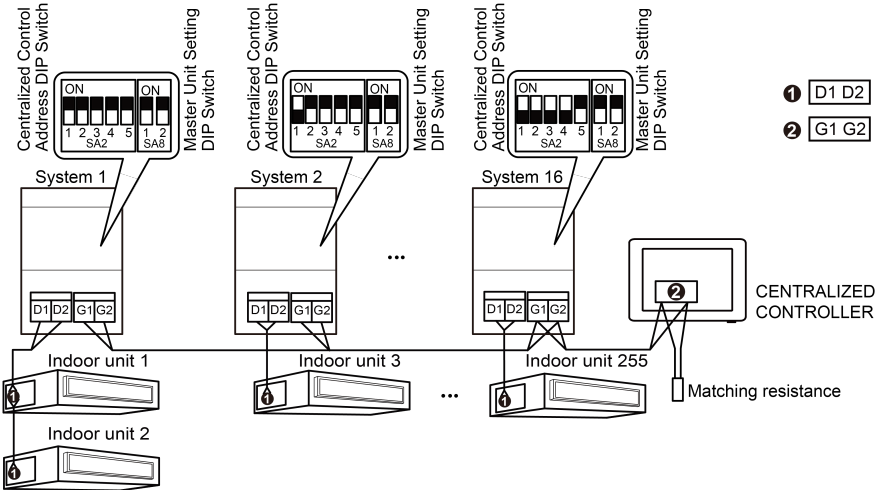
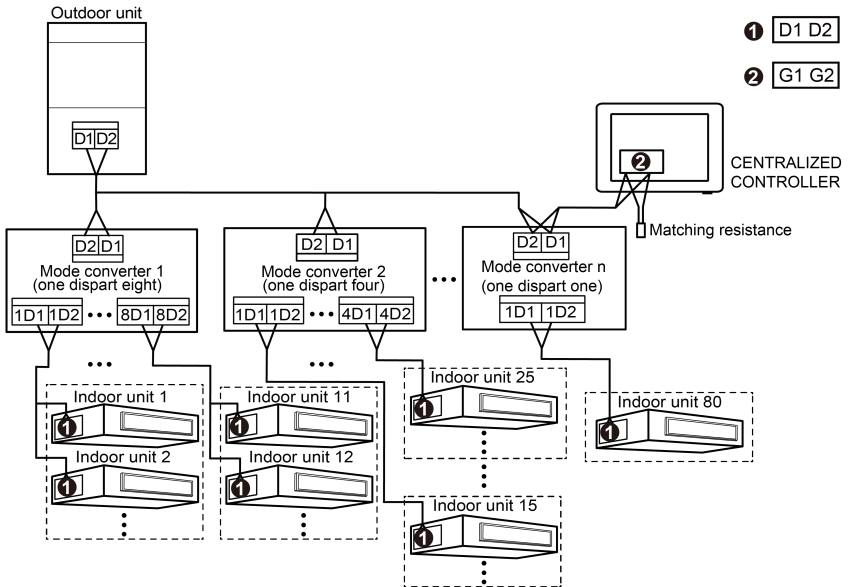

Fig.3.5 Centralized Controller Connected with Outdoor Network
Fig. 3.6 Centralized Controller Connected with Heat Recollection Mode Converter Network
- (3) If the centralized controller is to be connected with the network of outdoor units, connect according to fig.3.5. The centralized controller can only be connected with the terminal system of the outdoor network. A matching resistance needs to be added with the communication cords at the G1 and G2 ports.
- (4) The centralized control address DIP switch (SA2_Addr-CC) indicates the centralized control address required when different refrigerating systems are controlled in a centralized manner. The default factory setting is "0000".
- (5) If the centralized controller is to be connected with the network of heat recollection, connect according to Fig.3.6. The method 2 is also applicable to centralized controller switching in heat recollection network.